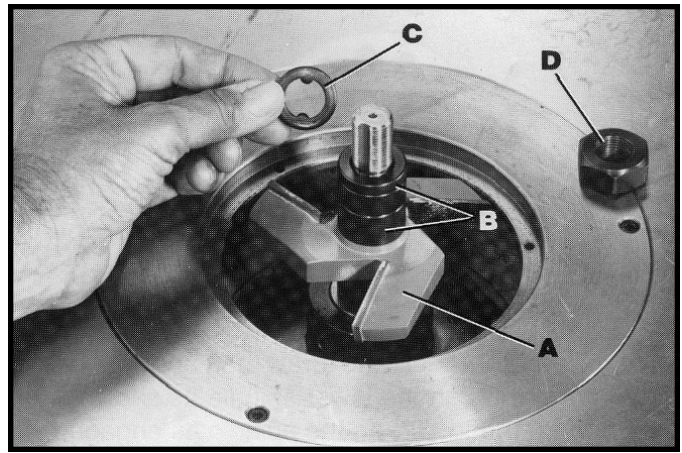

Fig. 36
2. Place the cutter (A) Fig. 36, and desired spacing collars (B) on the spindle as shown. **IMPORTANT:** Whenever possible, the cutter should be positioned on the spindle in such a way that the cut is being performed from under the surface of the workpiece.
3. **IMPORTANT:** Always place the "keyed" washer (C) Fig. 36, on spindle before threading on nut (D). The "keyed" washer (C) prevents the nut (D), from loosening when spindle turns counterclockwise.